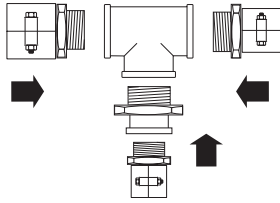

Figure 4-49: Assemble the Connection
4. Assemble the connection. See **Figure 4-49** for example of a Tee-connection and refer to **Installing WIPEX Fittings on page 31**.